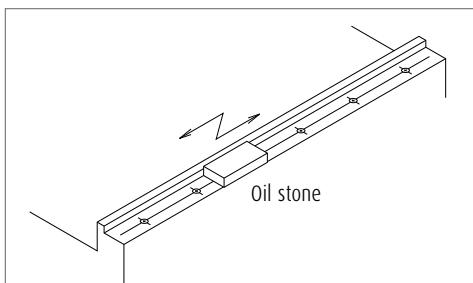

Fig. 12
(3) Installation procedures
- › For both methods, wipe off the rust preventive oil applied to the linear guide. Remove burrs and small bumps on the machine base and table mounting surface with an oilstone (Fig. 12).